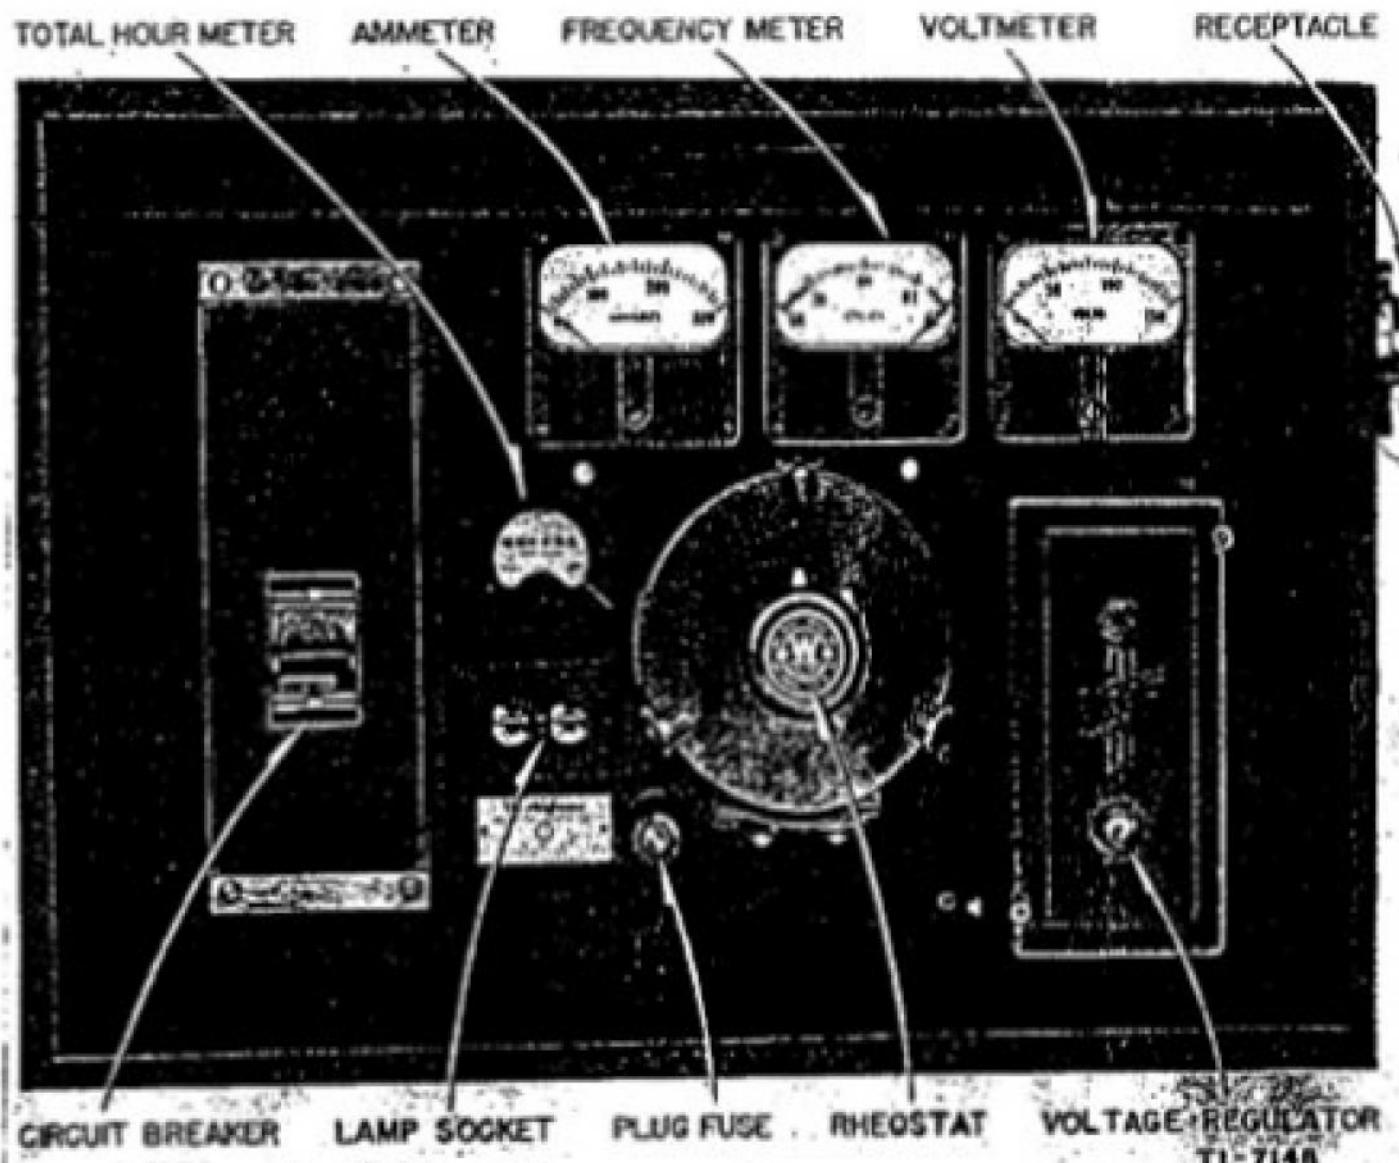

Figure 3. Power Unit PE-84-(*), electrical control panel.
c. CONTROL PANEL (fig. 3). The following equipment is mounted on the control panel: a 225-ampere, two-pole circuit breaker, which serves as a circuit breaker and a disconnecting switch; a voltmeter, for indicating the voltage across the single-phase line; an ammeter, for indicating the total current supplied